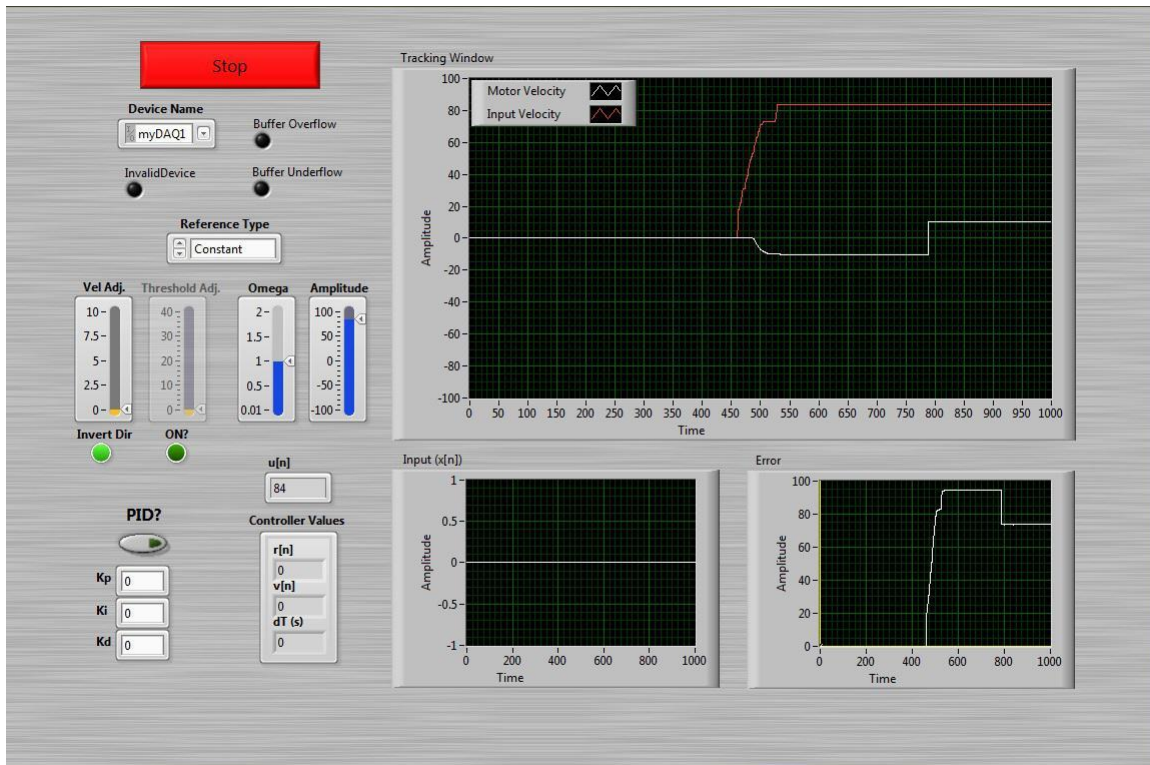
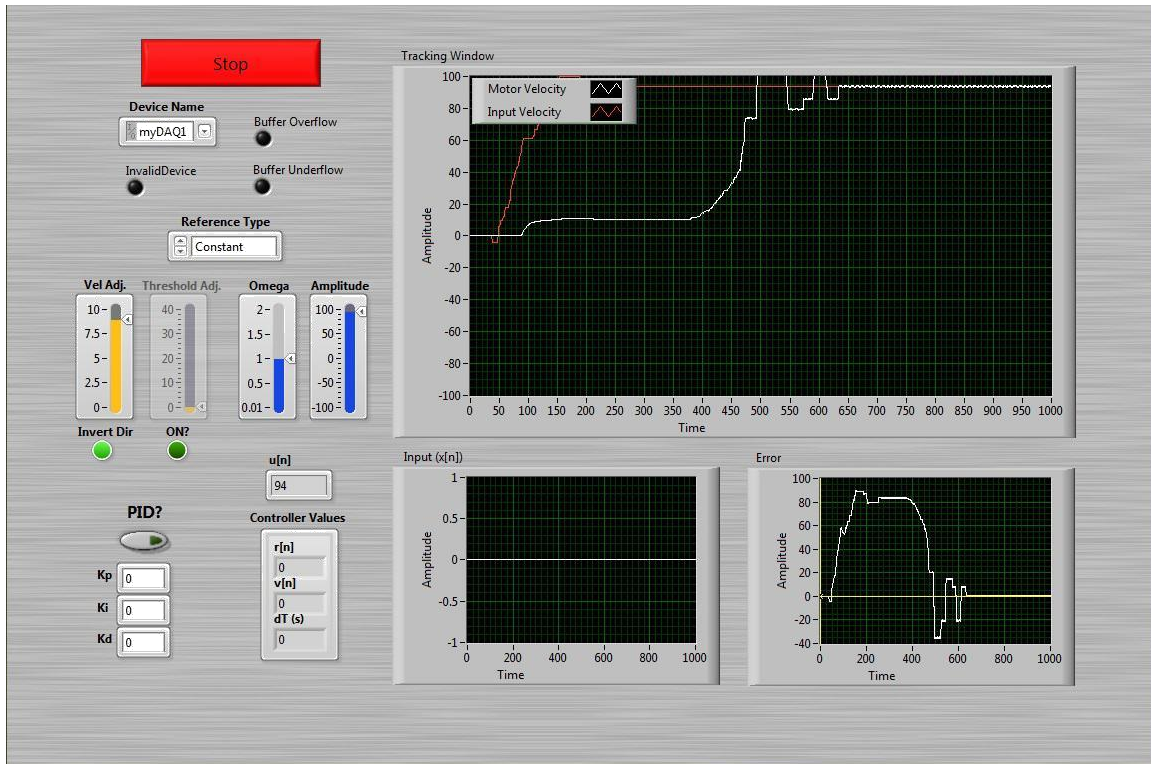

Figure 4: Screenshot showing inverted direction.
Figure 5: Screenshot showing velocity adjustment.
4. To get started, make sure the reference type is set to "Constant" (reference is a constant amplitude) and the PID light is off. We will now calibrate the feedback signal to your specific setup. Gradually increase the amplitude slider (right one) until the motor starts to move; you are setting the reference (red) signal. You should now see the white trace (actual velocity) start to change. Note the direction of its change. If it is changing in the opposite direction of the reference (red) signal, as shown in Figure 4, turn on the "Invert Dir" button to flip the sign. This will ensure that the directions of both the desired velocity and actual velocity are the same. Now gradually increase the amplitude slider to a little less than 100%. You should see another slider in yellow labeled "Vel Adjust". Adjust this slider until both the reference signal and the estimated velocity signal are approximately the same as shown in Figure 5. This allows the measured signal to stay within the PWM range. Make sure you can get your motor to move in both directions with a reasonable velocity signal before proceeding. (Ask for help if you can't get it to work.) You have just tuned the open loop controller by making the output track the input (without feedback).